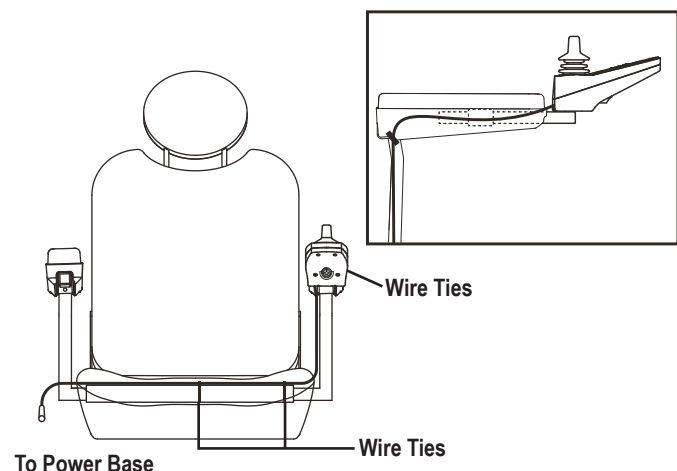

Figure 7. Controller Harness Routing on a Contour Seat
It may be necessary to install the seat either prior to initial operation or after transporting your power chair. Contour seats are attached to the power base with the Universal Mounting System (UMS). The UMS consists of universal parts that may be attached to the seat, regardless of seat width or seat depth. The two main components are aluminum extrusions mounted to the seat base. These extrusions attach to a pair of trapeze bars that are mounted to the power base. See **figure 7**.
4. Install the controller and route the harness to the back of the power base. See **figure 7, 8, 9, or 10**.
6. Secure the controller harness to the armrest receiver with wire ties. See **figure 7, 8, 9, or 10**.
4. Flip up the seat latch safety. **See figure 7.**